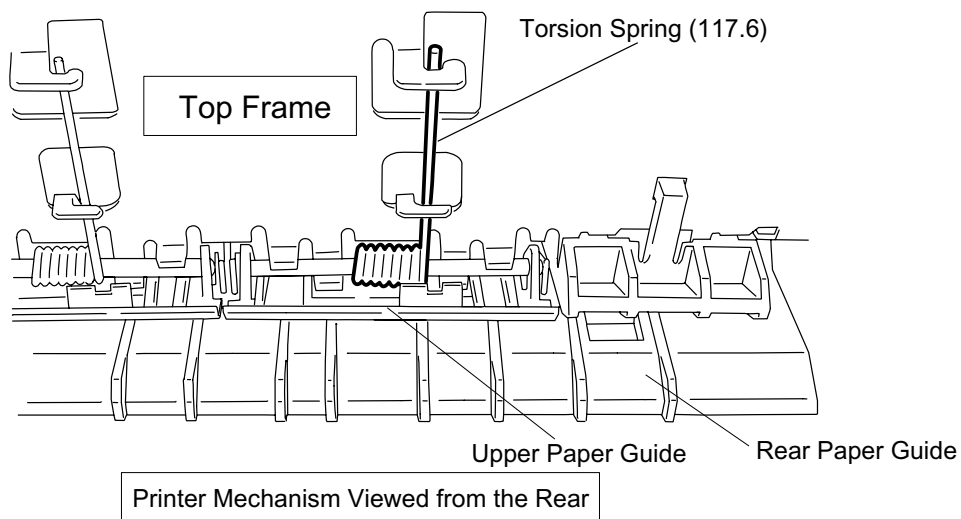

Figure 3-52. Releasing the Torsion Springs
4. Using tweezers, remove torsion springs (117.6 g) attaching 5 upper paper guide assemblies and 1 right paper guide assembly. Then, take the 5 upper paper guide assemblies out backwards and the right paper guide assembly forward to remove them. (See Figure 3-52.)